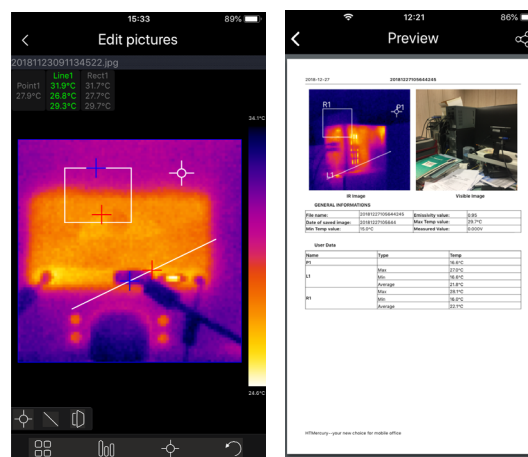

Fig. 21: Applications of the APP HTMercury
1. Press key **ESC**/ to activate Manual mode. The temperature values stay fixed within a frame with grey background and symbol  appears on the display (see Fig.21 – left side).
2. Press key **▲** to set the higher temperature value. The following screen (see Fig.21 – middle) appears on the display.
4. Select virtual key **←** to delete the value, press key **T** to define each value and select the virtual key **Enter** to confirm the value (e.g.: 35.0°C in Fig. 21 – middle) and quit setting section.
6. The display of the object in Manual mode is shown in Fig. 21 – right side.